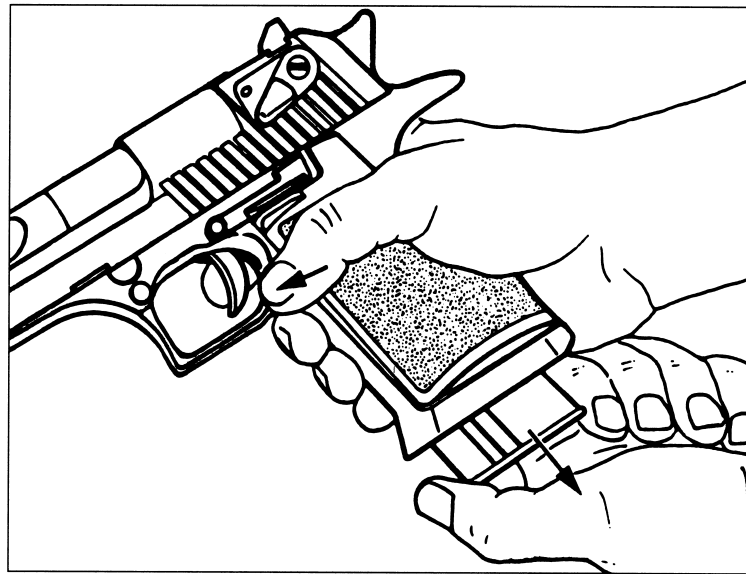

fig. 5
3. Press the magazine catch pin on the left hand side of the pistol and remove the magazine (fig. 5).
1. Remove the magazine (fig. 5) and engage safety "ON".